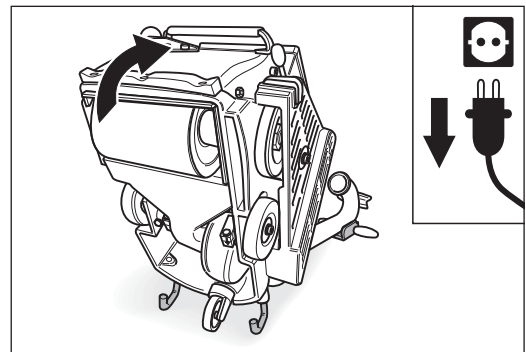

Fig. 81 **Pull the power plug out of the socket!** Tilt the machine backwards. **Ensure that the machine is standing securely!**
- 3 Tilt the machine backwards over the safety guards so that you can see the wheel bearings (fig. 81). **Ensure that the machine is standing securely!**
- 6 Tilt the machine backwards over the safety guards (fig. 81).